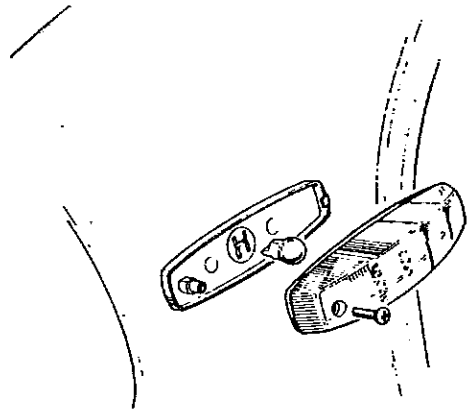

Fig. 54. Front/Side Marker Lights
1. Remove lens securing screw (fig. 54).